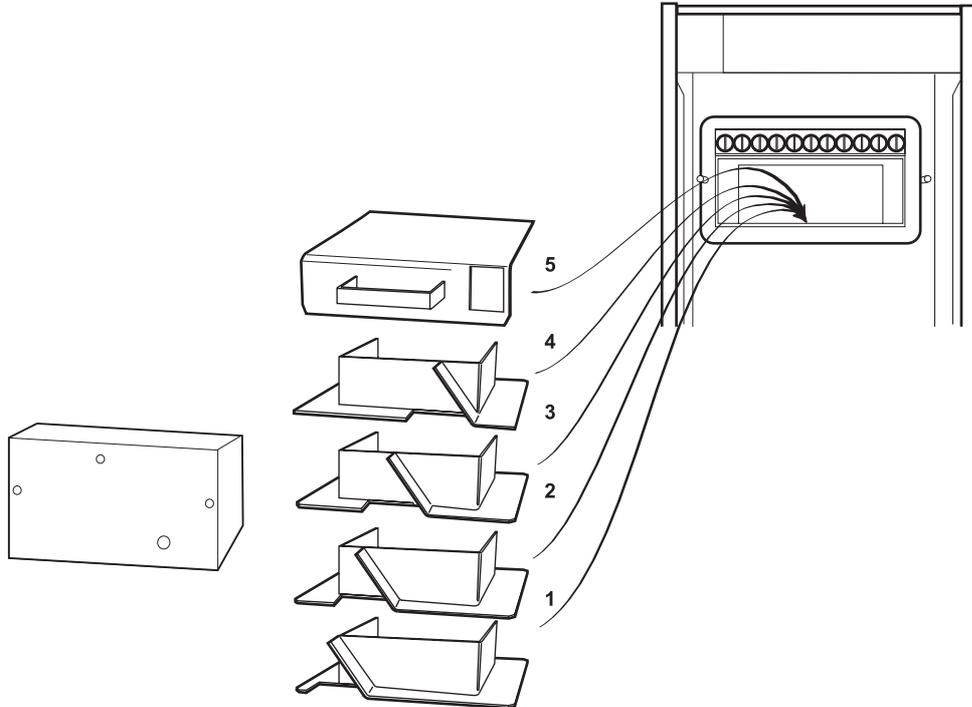

Fig. 23 - 50/70, 70/90 baffles
- 2 Remove the baffles as shown in Fig. 23 or 24.
- 6 Replace the baffles, ensuring they are correctly fitted. See Fig. 23 or 24.